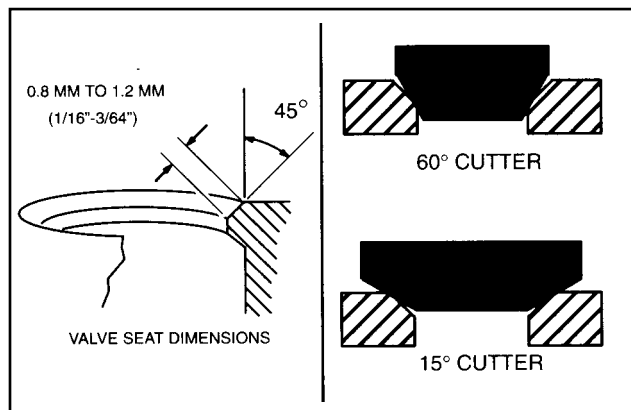
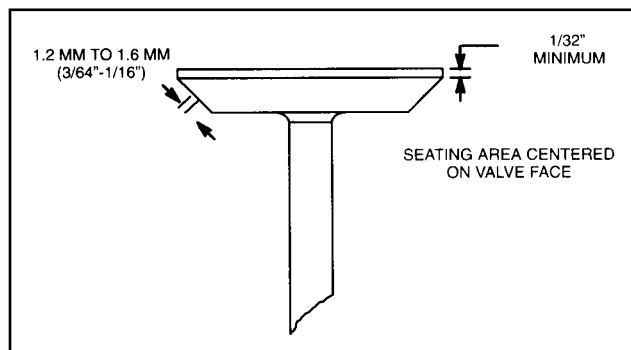

Figure 5-9. Valve Seat Dimensions
Figure 5-10. Valve Dimensions
If valve seat is wider than dimension shown in Figure 5-9, a narrowing cutter should be used to ensure that contact area of valve seat is centered on face of valve (Figure 5-10).
- a. Use a 60° cutter to narrow seat from bottom and a 15° cutter to narrow seat from top (Figure 5-9).
2. Valve faces may be resurfaced to 45°. See Figure 5-10 for dimensions for valves.